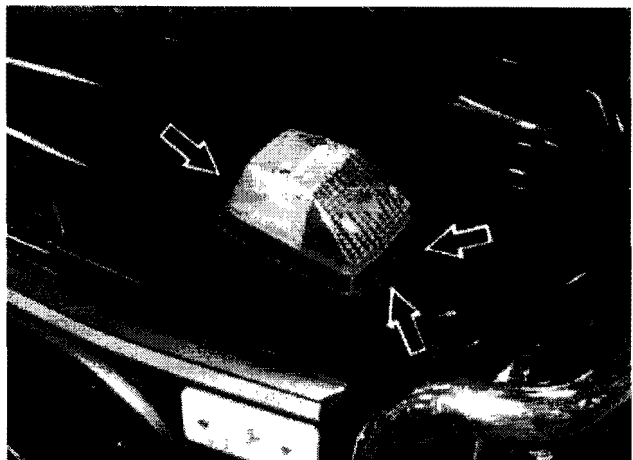

Figure 3
7. Install body plugs (arrows, Figure 3) into 3 anchor holes using even pressure.